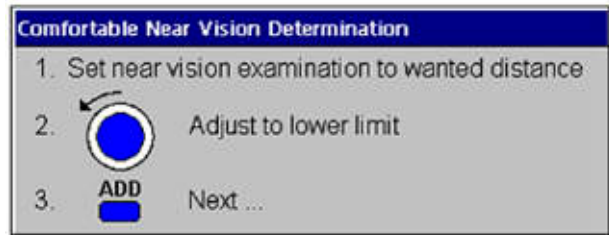

Figure IS-9 Near Vision Addition
1. Press ADD. The Comfortable Near Vision Determination box will appear. Refer to Figure IS-9.